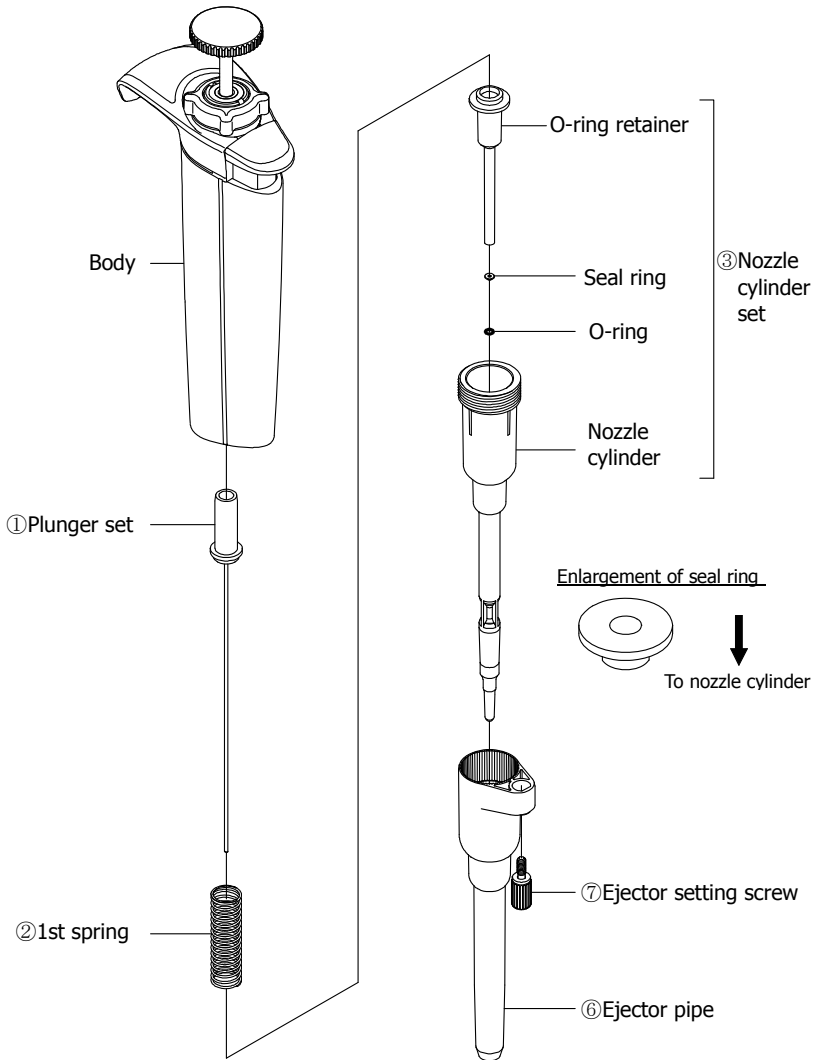
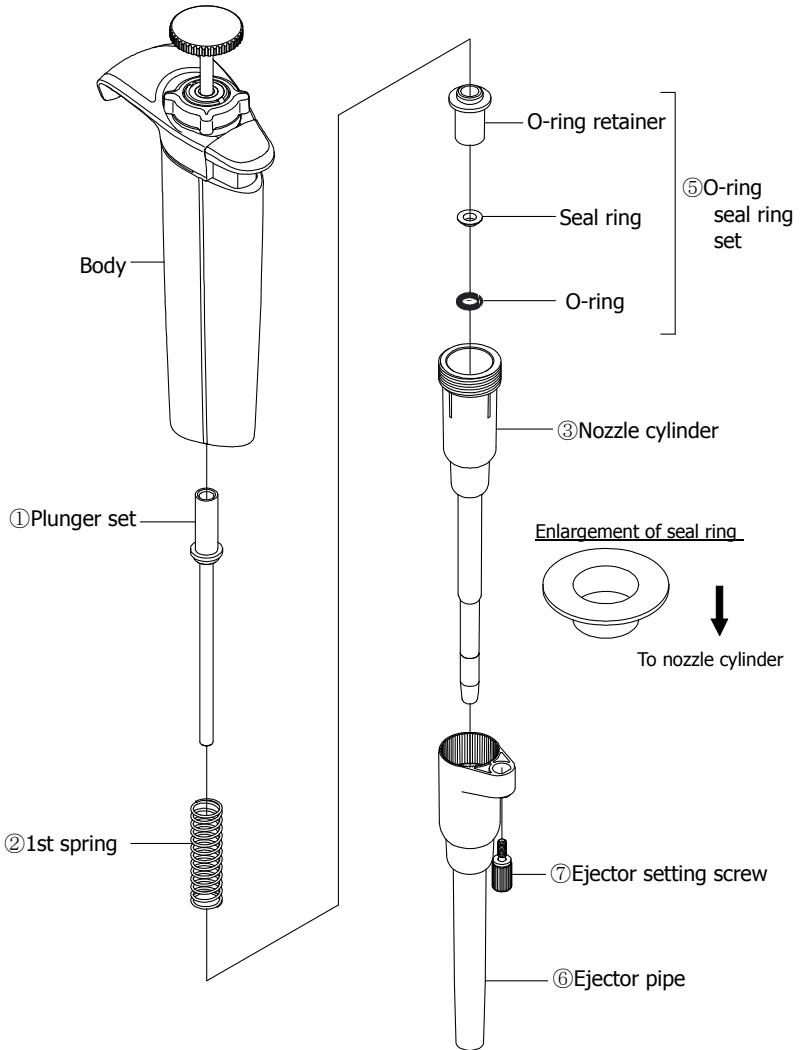

Fig. G1
Fig. G2
③ Remove internal parts one after another.
- 2uL-1000uL : Fig.G1, G2, G3
① Reassemble nozzle cylinder.
- 2, 10, 20uL : Fig. G1, 100, 200uL : Fig G2, 1000uL : Fig G3
②Fit the ejector pipe to the body.
- 2, 10, 20uL : Fig G1, 100,200uL : Fig. G2 1000uL: Fig. G3